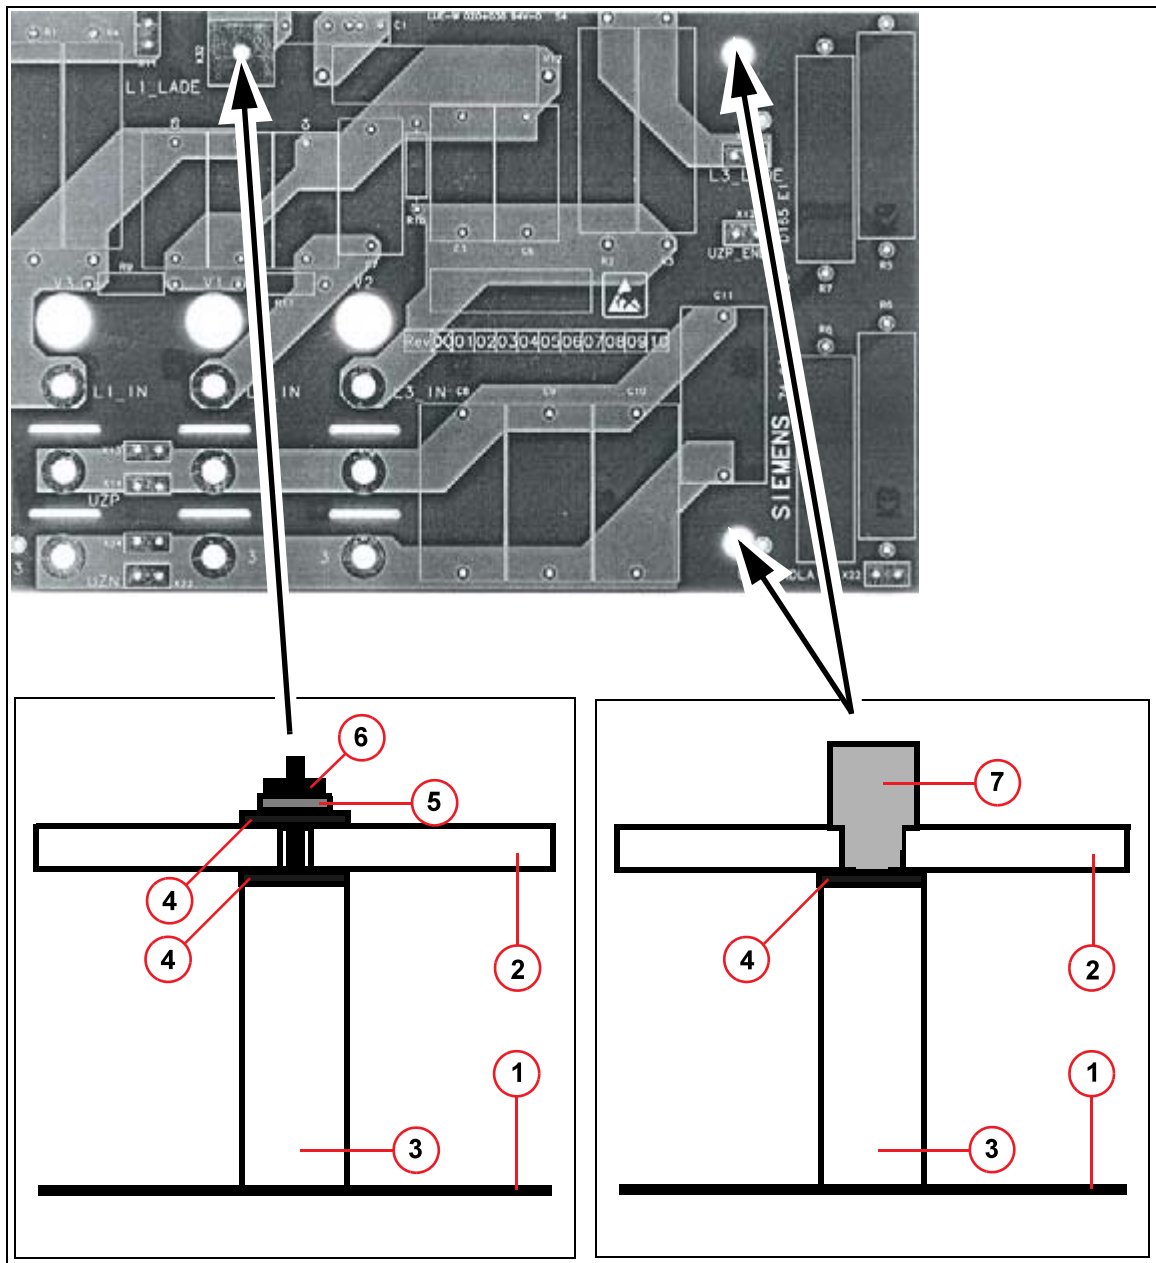

Fig. 9: D165, Part No.: 74 63 362
- Place 1 washer from the update kit on each of the threaded studs (4/Fig. 9 / p. 28).
- Place a washer (4/Fig. 9 / p. 28) and a serrated contact washer (5/Fig. 9 / p. 28) from the update kit on the X32 threaded stud connection and secure them with the M3 hex nut included in the shipment (6/Fig. 9 / p. 28).
- Secure the two other threaded studs with the plastic knurled nuts (7/Fig. 9 / p. 28).